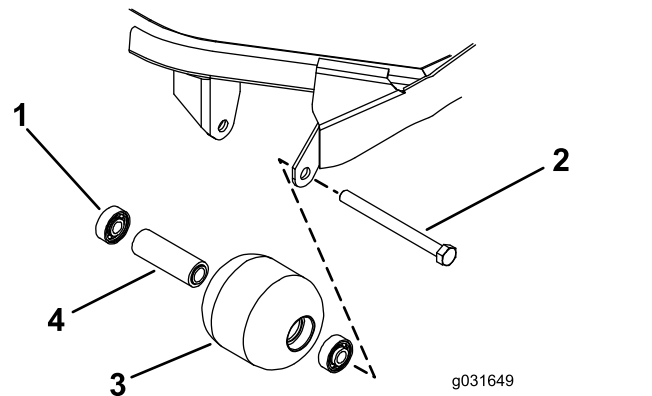

Figure 73
- Remove the roller-mounting bolt (Figure 73).
- Inspect the roller housing, bearings, and bearing spacer for damage (Figure 73).
1. Pressing on the outer race only or equally on the inner and outer race, press the first bearing into the roller housing (Figure 73).
2. Insert the spacer (Figure 73).
3. Pressing on outer race only or equally on the inner and outer race, press the second bearing into the roller housing until it contacts the spacer (Figure 73).